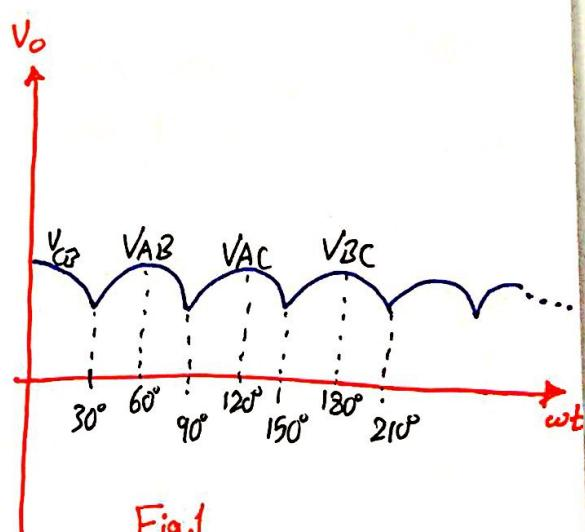

Fig.1
• Average for previous Fig.1: $V_{avg} = \frac{6}{2\pi} \int_{30}^{90} V_{AB} dt$ [44]
same Fig. 1 shifted By 30° .